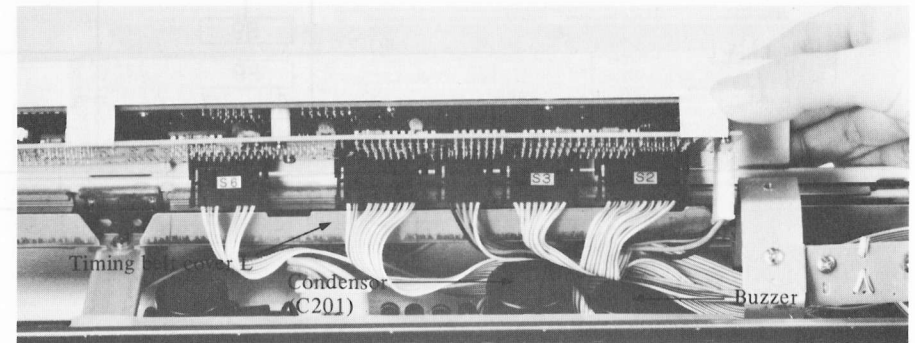

Fig. 65
- B. Place the lead wire of the connector at the back side of the condenser (C201), buzzer and transistor, and insert them under the timing belt cover L. (Fig. 65)